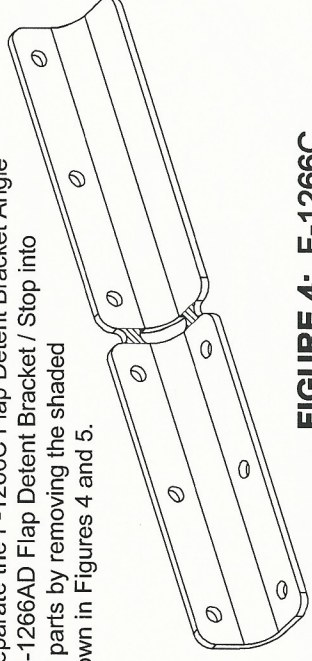

FIGURE 4: F-1266C FLAP DETENT BRACKET ANGLE
Step 6: Separate the F-1266C Flap Detent Bracket Angle and the F-1266AD Flap Detent Bracket / Stop into individual parts by removing the shaded areas shown in Figures 4 and 5.